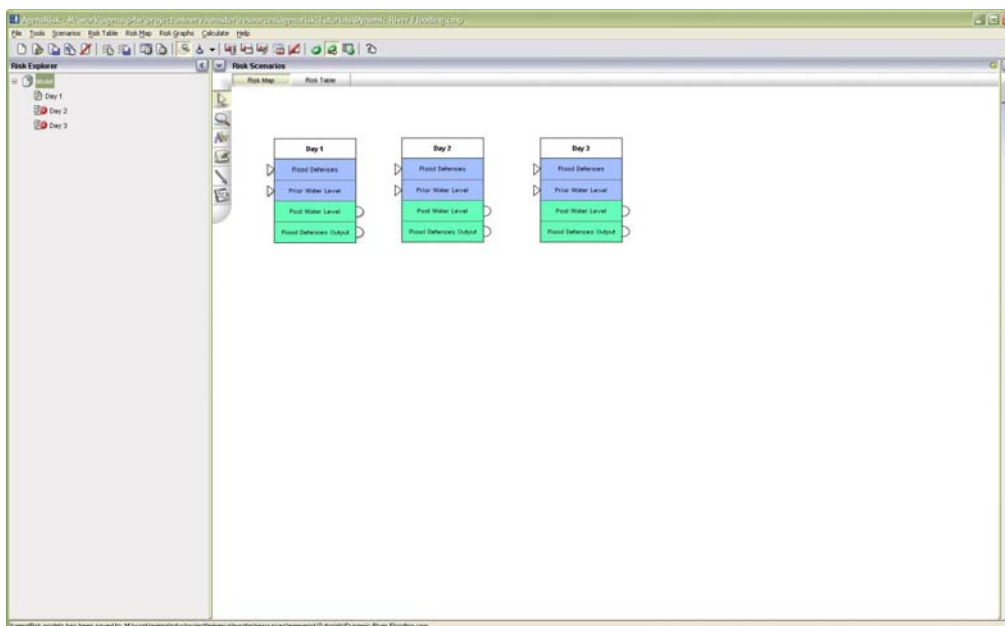

Figure 3 River Flooding model showing three risk objects
14. In the Risk Explorer, rename the three objects *Day 1*, *Day 2* and *Day 3*. Then, in the Risk Map, line up the three objects horizontally so that they appear in chronological order. Your model should now look like the one shown in Figure 3.